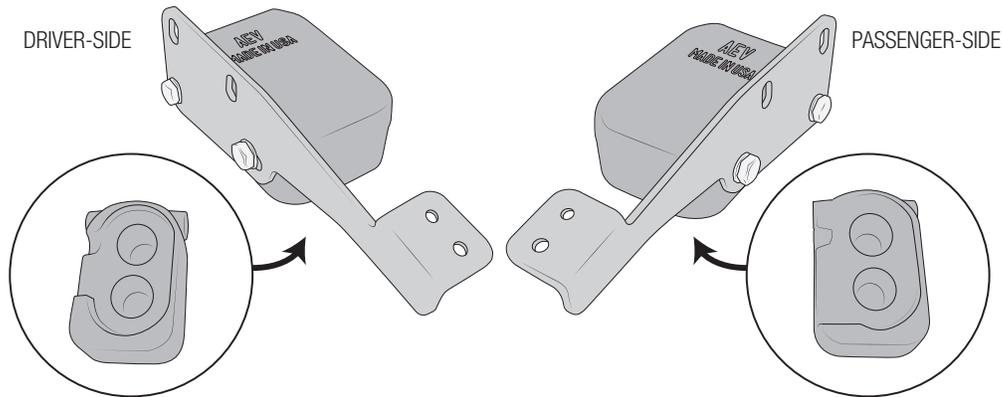

Figure 21
a. Pre-assemble the brake line/bump stop brackets to the bump stops as shown (fig. 21). Only snug bolts at this time, you will need movement to adjust position on vehicle.